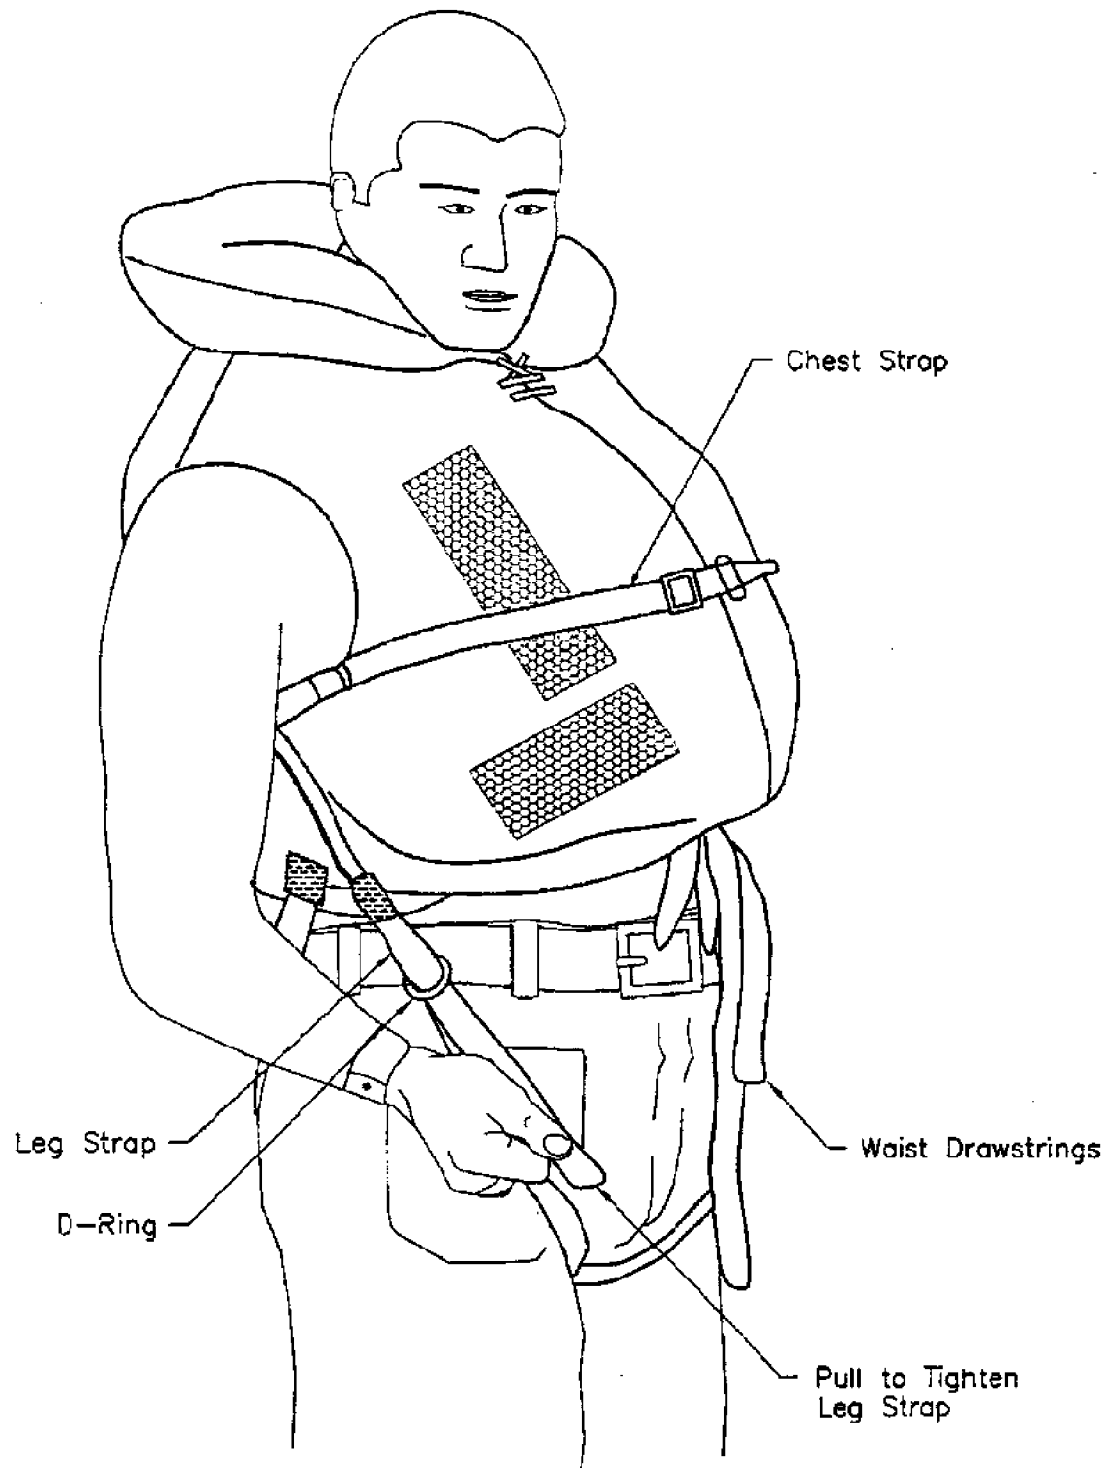

Figure 077-2-3. Vest Type Leg Strap Adjustment
9. Tighten leg straps, as shown in Figure 077-2-3.